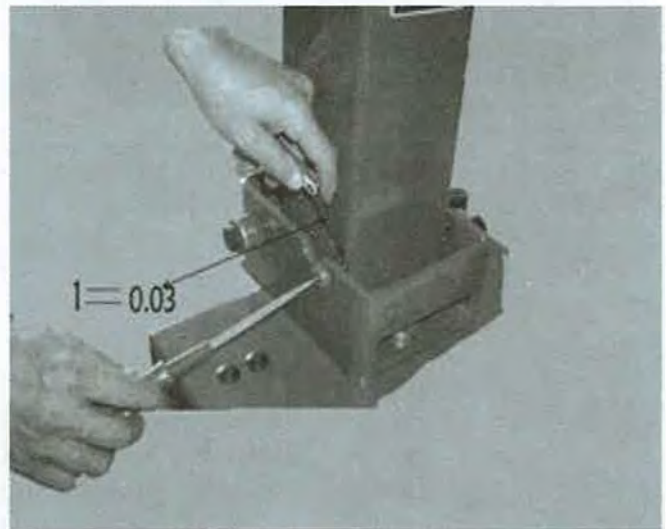

Fig4-10
4.2.13 Adjust the position screw on the two sides of the column: Loose the nuts on the two sides and adjust the gap between the head of the screw and the side of the column to make it to be 0.03mm (Fig4-10) and then lock the nut.